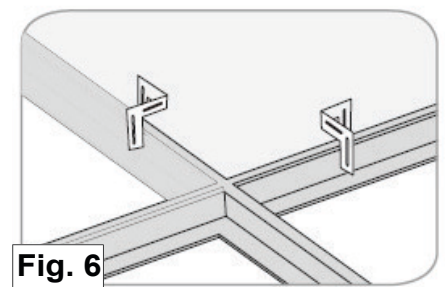

Fig. 6
6. Check engagement of earthquake clips and add any additional mounting features as required by code (Fig. 6).